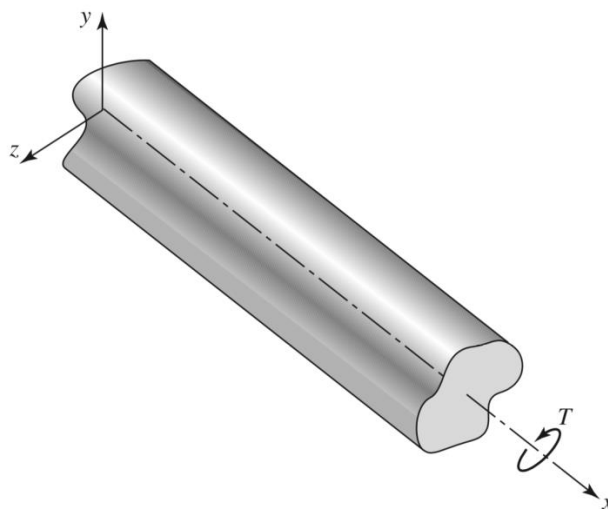

Figure 5a: a general structural member with a non-circular section in torsion
7. (14%) Consider a general structural member subjected to a torsion T acting about the x axis shown in Figure 5a. An arbitrary point located on a cross section at position x is shown in